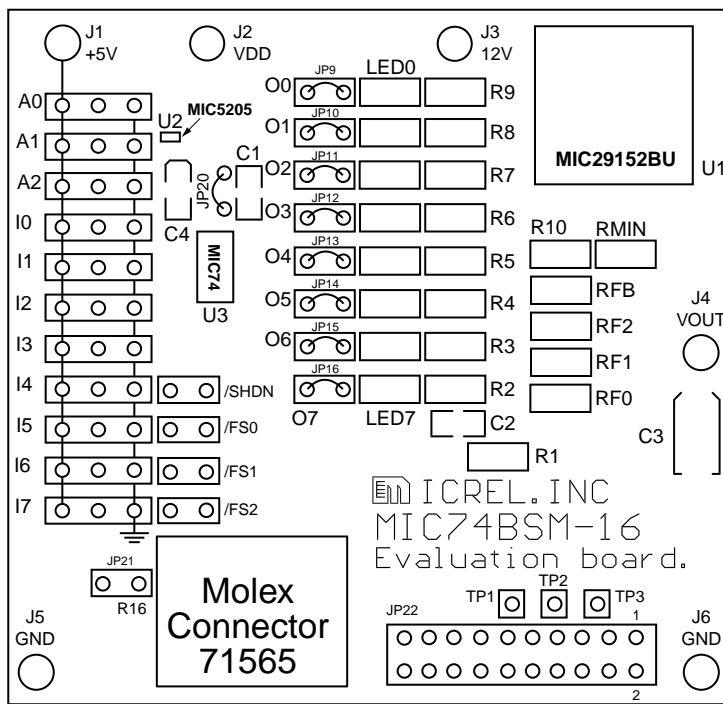

Figure 3. Output Configuration
1. Completely remove the jumpers from JP1 to JP8 and connect them to JP9 - JP16 to configure all I/Os to drive the LED's. See Figure 3 below.